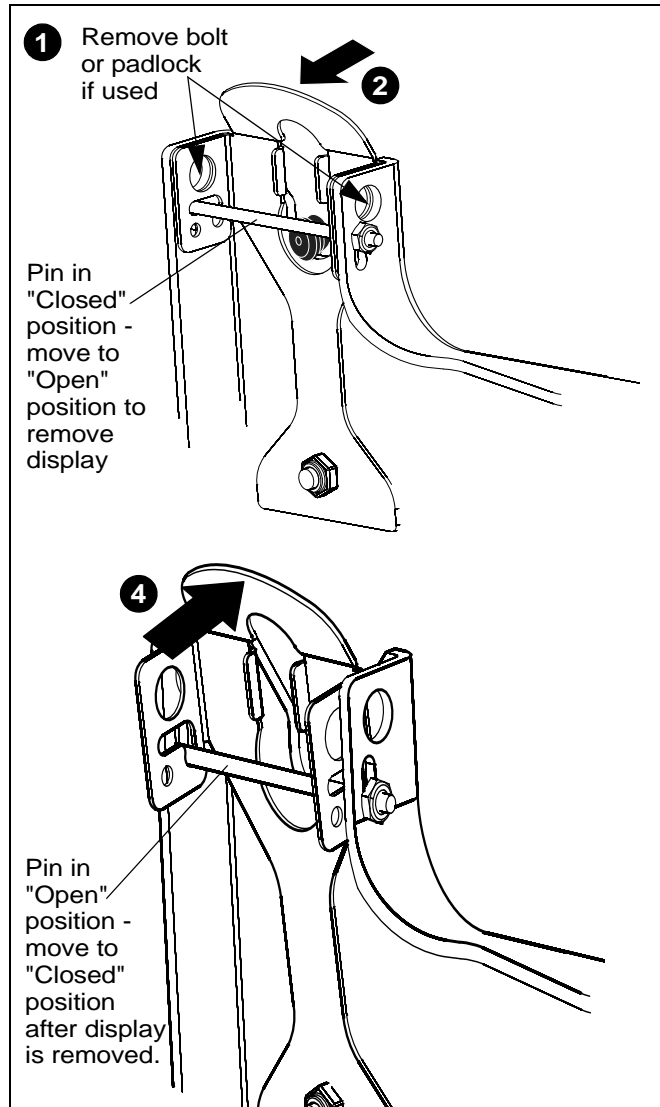

Figure 12
2. Pull back on flag on upper mounting hole and press pin down into "Open" position. (See Figure 12)